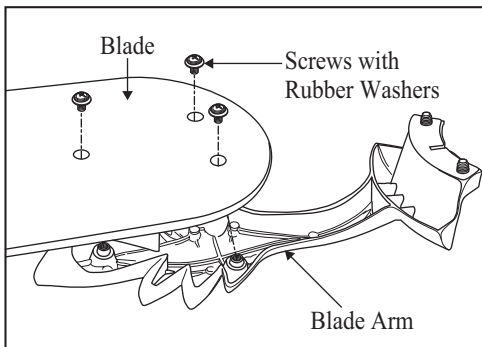

Figure 15
1. Attach blades to blade arm using the screws and rubber washers provided. (Fig. 15) Start a screw into the blade arm, do not tighten. Repeat for the 3 remaining screws and washers.